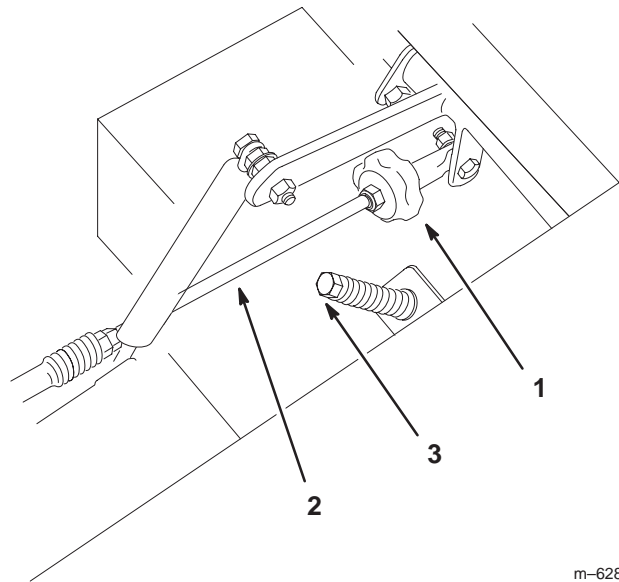

Figure 48
2. Adjust pump rod length by rotating the knob, in the appropriate direction, until the wheel is still or slightly creeping in reverse (Fig. 48).